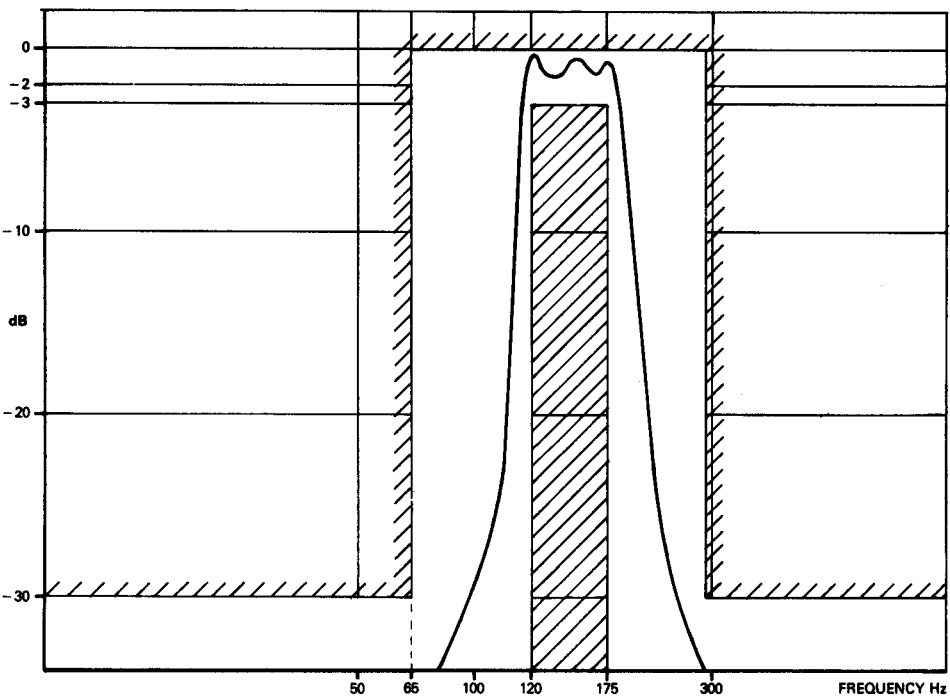

Fig. 5 Typical data bandpass filter frequency response versus R2000 filter specification.
2. Absolute ripple—see Fig. 5.